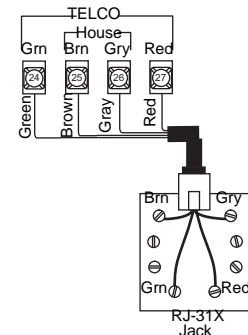

Figure 35. Connecting the DB-8 Cord to the Panel Terminals and RJ-31X Jack
1. Connect the green, brown, gray, and red flying leads from the DB-8 cord to panel terminals 24, 25, 26, and 27 (see Figure 35).
2. Insert the DB-8 cord’s plug into the RJ-31X (see Figure 35).